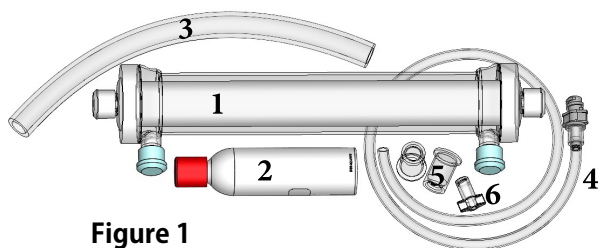

Figure 1
1. KIT COMPONENT CHECK (figure 1)
- Verify that you have all **EasyElute™** parts shown in (figure 1)